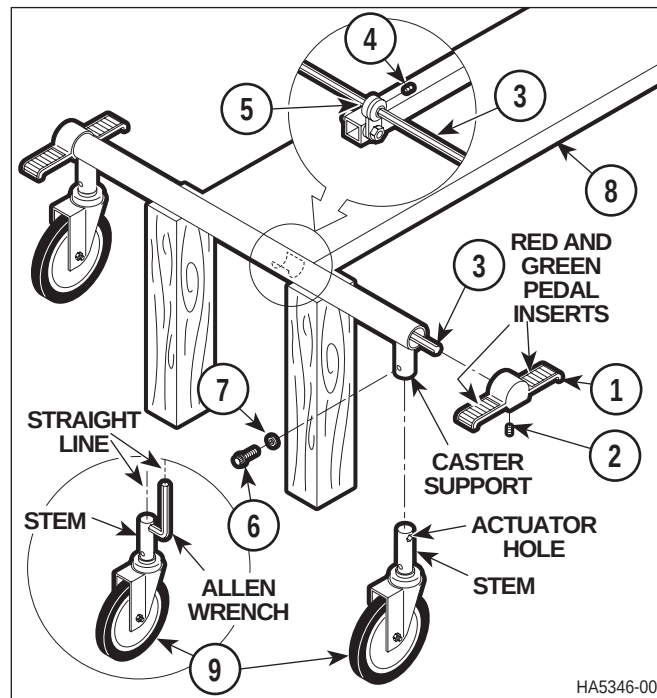

Figure 4-23. Caster Removal / Installation
- (1) Depress a caster control pedal (1, Figure 4-23) to the brake position.
- (2) Elevate end of stretcher from which caster is being removed at least 6 in. (15.2 cm) and secure with blocks.
- (3) Loosen setscrew (2) and remove caster control pedal (1) from actuator bar (3).
- (4) Loosen setscrew (4) which secures transfer lever (5) to actuator bar (3).
On stretchers with S/N TAE-1000 thru TAE-2678, TAE-2750 thru TAE-2999, and TAF-1000 thru TAF-2369, screws (6) will be located 90° from what is shown in Figure 4-23 (difference is because of old style casters).
- (5) Remove two screws (6) and lockwashers (7) from chassis (8).
- (1) Insert a 7/16 inch Allen Wrench in actuator hole of new caster assembly (9) and turn Allen Wrench in one direction as far as it will go. Check if the caster assembly brake is engaged (If the caster assembly brake is engaged, the caster fork will not rotate and caster wheel will not turn). If it is determined that the caster assembly brake is not engaged, turn the Allen Wrench in the opposite direction as far as it will go; this will be the brake position.
- (2) Turn the Allen Wrench back one "click". This is the caster assembly's (9) neutral position. Remove the Allen Wrench and re-insert it so the long end of the Allen Wrench is in a straight line with the stem of the caster assembly (See Figure 4-23).
- (3) Return the caster assembly (9) to the brake position (the Allen Wrench should be at an angle now).
- (4) With the Allen Wrench still inserted in the caster assembly (9), partially install the caster assembly in caster support of chassis (8) so that the long end of the Allen Wrench is pointing in same direction as the red pedal inserts in the caster control pedals. If not, remove the caster assembly, rotate it 180° and re-install caster assembly. Now the long end of the Allen Wrench should be pointing in same direction as the red pedal inserts, indicating the caster assembly is oriented properly.
- (5) Remove Allen Wrench from caster assembly (9) and install caster assembly in caster support of chassis (8).
- (8) Install two new lockwashers (7) and screws (6) to secure caster assembly (9) in chassis (8).
- (9) Install caster control pedal (1) on end of the actuator bar (3) and secure by tightening setscrew (2).
- (10) Making sure the transfer lever (5) is not binding, secure in position by tightening set-screw (4).
- (11) Check the newly installed caster assembly (9) for proper operation.